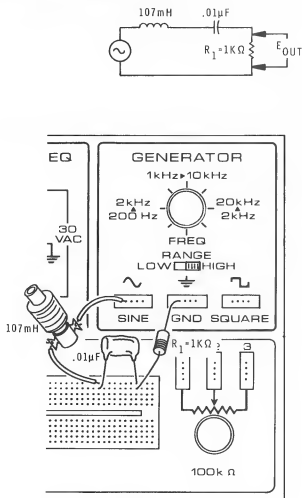
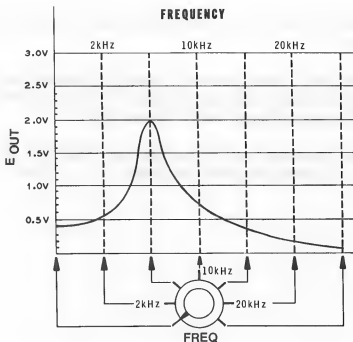

Figure 2-83
Figure 2-84
1. Construct the circuit shown in Figure 2-83.
3. Refer to Figure 2-84. This diagram shows a typical response curve for the circuit you built in step 1. The curve was constructed by measuring E_{out} at several frequencies.
Plot the response curve for the circuit shown in Figure 2-83.
- Using a pencil, mark this voltage on the far left vertical line of Figure 2-84. Notice that arrows show where the voltages should be plotted for each point on the frequency dial.
- Connect the points with a continuous line. Does your curve agree with the one originally shown in Figure 2-84 _____.
In step 1 you constructed the circuit shown in Figure 2-83. A typical response curve for this circuit was shown in Figure 2-84. In steps 4 through 8 you plotted your own response curve for the circuit. The general shape of your curve should agree with the typical curve. From the circuit arrangement and the response curve, it is obvious that this is a band-pass filter.